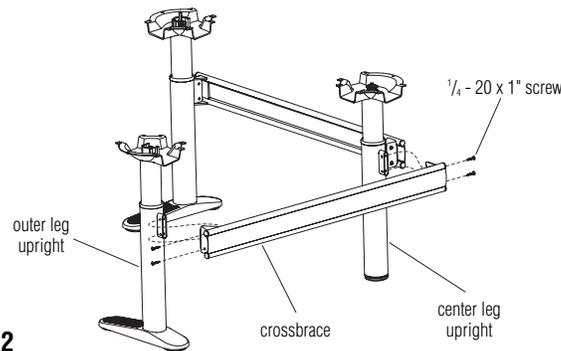

Figure 2
3. Attach the appropriate crossbrace to the other outside leg upright and the center leg upright similar to step 2 above (Figure 2). Do not tighten the two screws that attach the crossbrace to the corner leg upright.